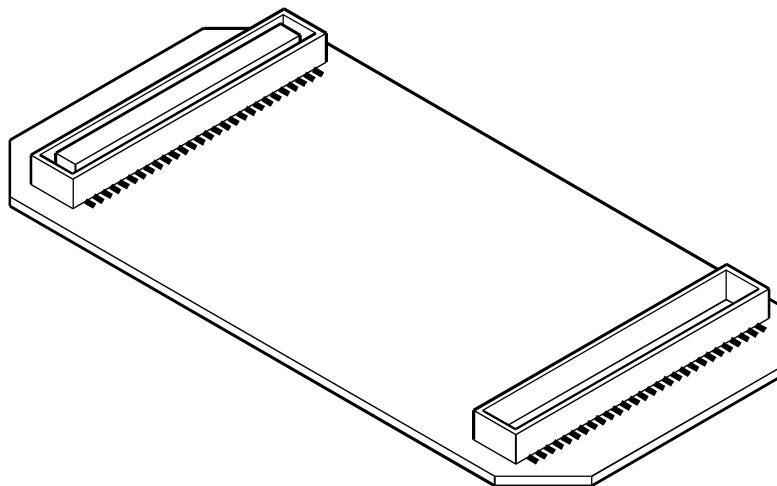

Figure 3: Extender PCB
**5. Extender PCB, Part No. G6EXT PCB 001 (Figure 3).**